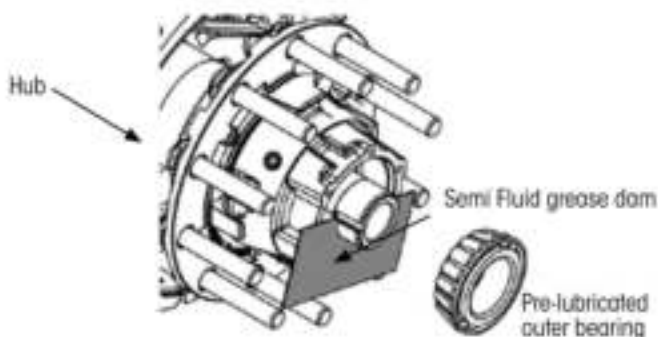

Figure 10: Semi Fluid grease dam application
3. With the hub supported in position as shown in Figure 10, place and hold the Semi Fluid grease dam so it covers the lower half the hub opening.